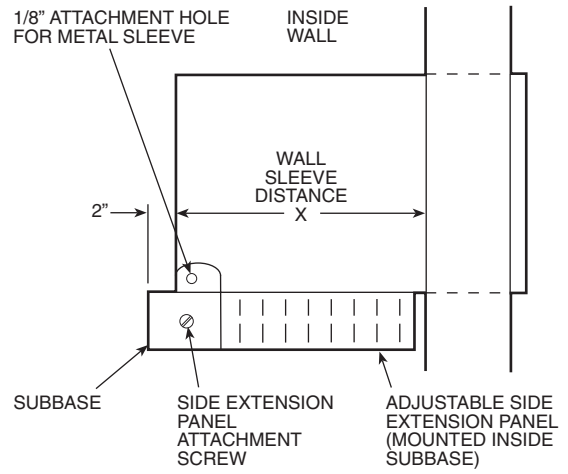

Fig. 3 — Attaching Adjustable Side Extensions to Subbase
Step 2 (Optional) — Adjustable Side Extension Panels can be attached to cover open space left between subbase and wall. Determine the distance from inside wall to front of wall sleeve. See Fig. 3, dimension X.